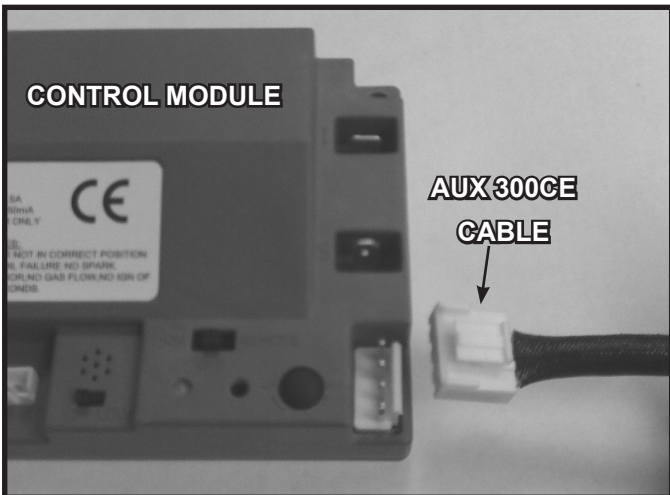

Figure 10.7 AUX 300 Module Installation
- Insert the 4 hole harness from the AUX300CE module into the 4 pin plug on the control module. See Figure 10.7.